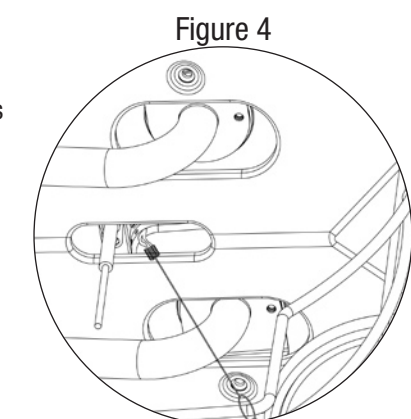

Figure 4
8. If igniter does not light burner, use a lit match secured with the lighting rod provided to light burners manually. Access the burners through the cooking grid and heat plates. Position the lit match near side of the burner. (Figure 4)